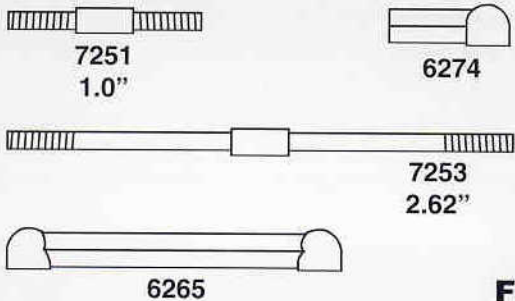

Fig. 32
□ **Figs. 32 & 33** In bag #7-2 you will find one #6265 molded drag link and two #7253 2.62" turnbuckles. From bag #6-14 remove four #6274 plastic ball end cups. Thread the ball cups onto the two turnbuckles to the dimension shown below. **THESE DIMENSIONS ARE TO THE CENTER OF THE BALL CUP, NOT TO THE END OF EACH BALL CUP.** The cups should face the same direction.